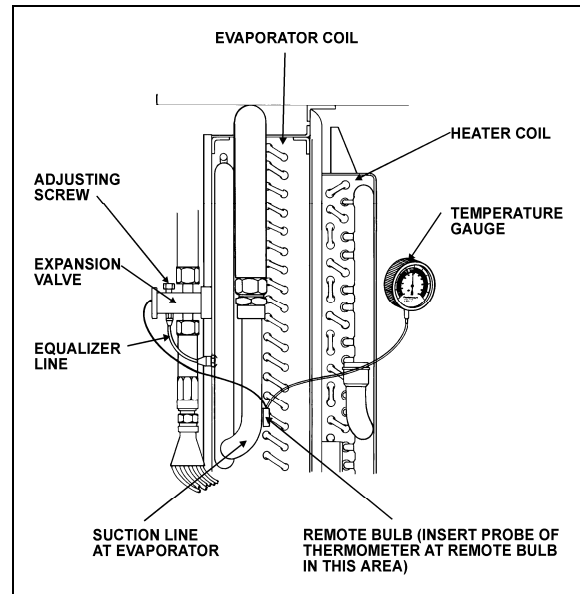

FIGURE 34: SUPERHEAT ADJUSTMENT INSTALLATION 22046
The starting method of adjusting the superheat is to unscrew completely the main evaporator expansion valve adjusting screw, then screw in 13 turns clockwise for 134A (Fig. 34).
3. Install a remote reading thermometer to the evaporator outlet line near the existing remote bulb (Fig. 34).